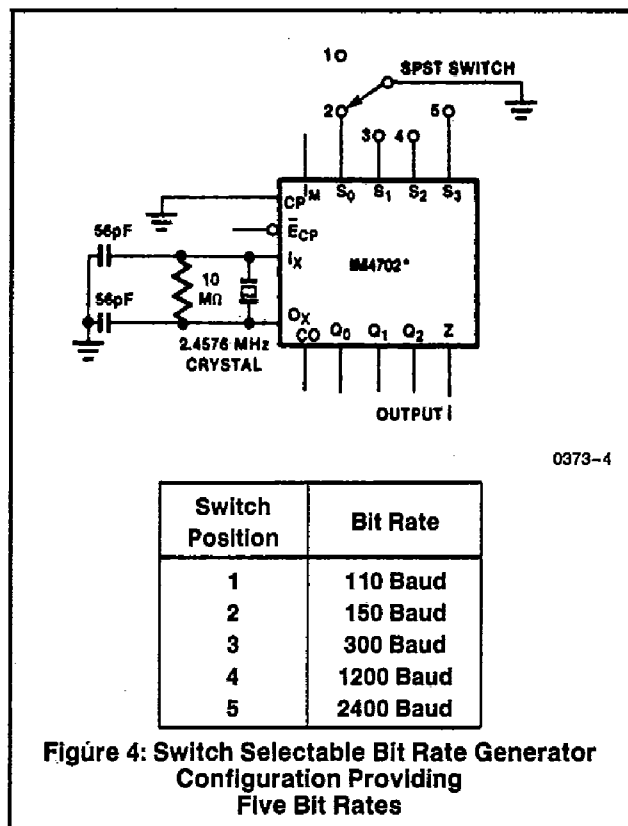

Figure 4: Switch Selectable Bit Rate Generator Configuration Providing Five Bit Rates
Figure 4 shows the simplest application of the IM4702/12. This circuit generates one of five possible bit rates as determined by the setting of a single pole, 5-position switch. The Bit Rate Output (Z) drives one standard TTL load or four low power Schottky loads over the full temperature range. The possible output frequencies correspond to 100, 150, 300, 1200, and 2400 or 3600 Baud. For many low cost terminals, these five bit rates are adequate.